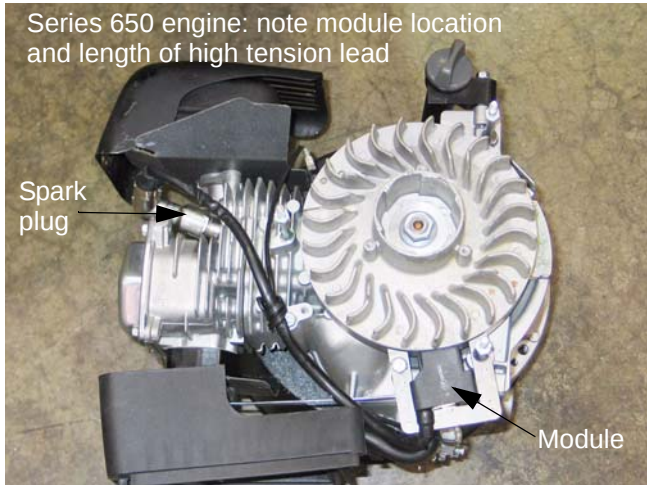

Figure 7.8
- 7.8. The ignition module for the Series 650 engines is mounted off-set from the cylinder. See Figure 7.8.